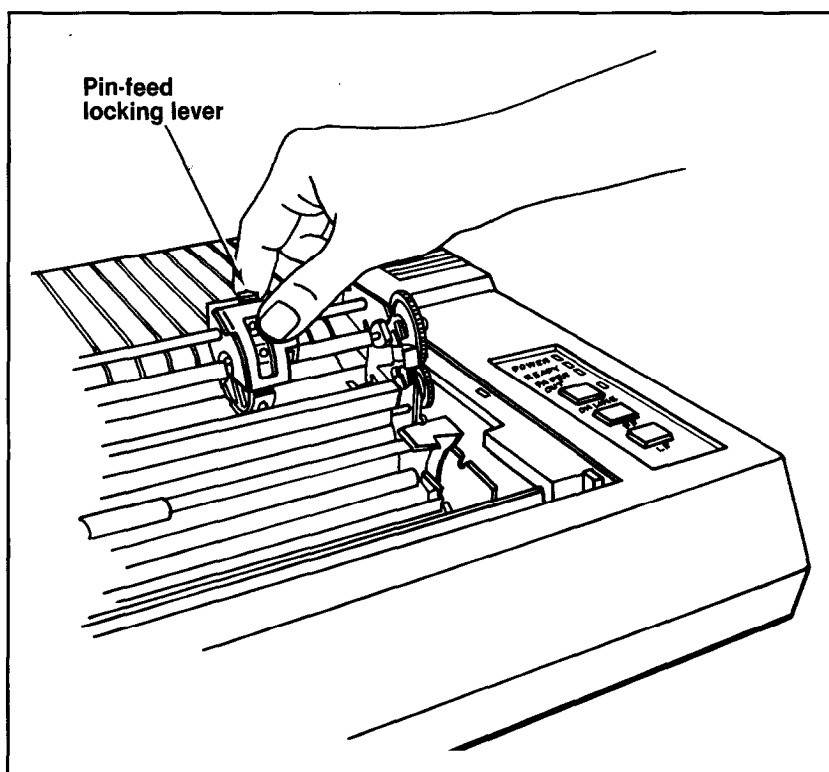

Figure 1-18. *Adjusting the pin feeders*
- Position the pin feeders, using the pin-feed locking levers to make the adjustment. One is shown in Figure 1-18.